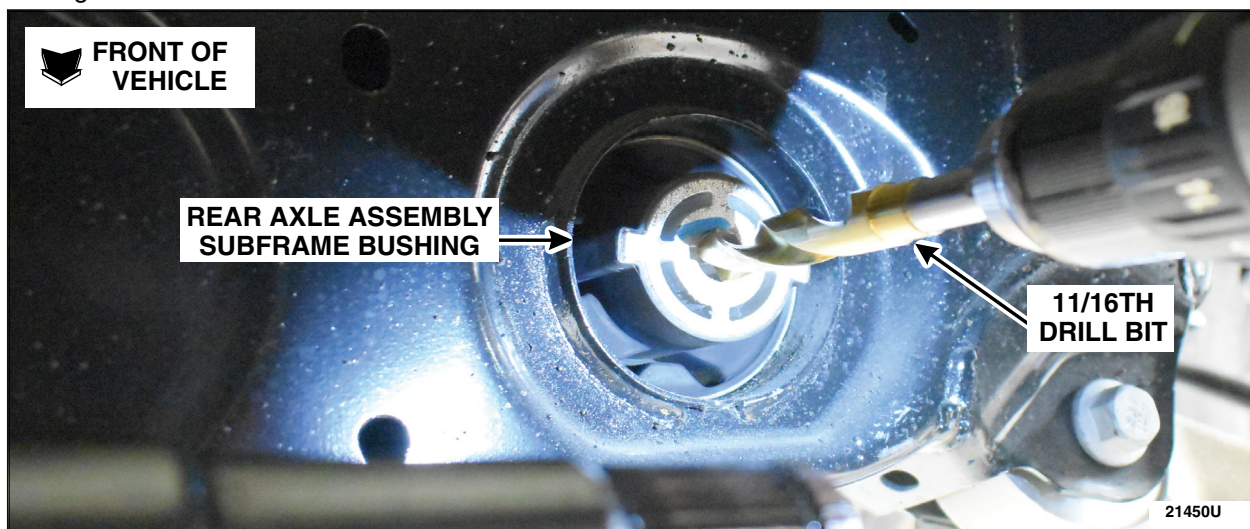

FIGURE 4
10. Using an 11/16th or larger drill bit drill out the rear axle assembly subframe bushing bolt hole. See Figure 4.